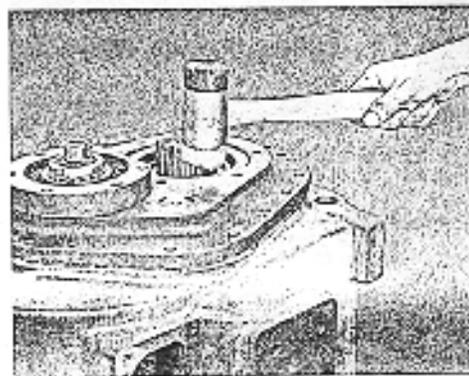

Figure 39. Installing Cover on Housing.
6. Tap the cover evenly with a soft hammer until cover is 1/8" from housing. Locate cap screws and lock washers. Tap cover down firm and torque cap screws to 62 lb-ft. see fig.39